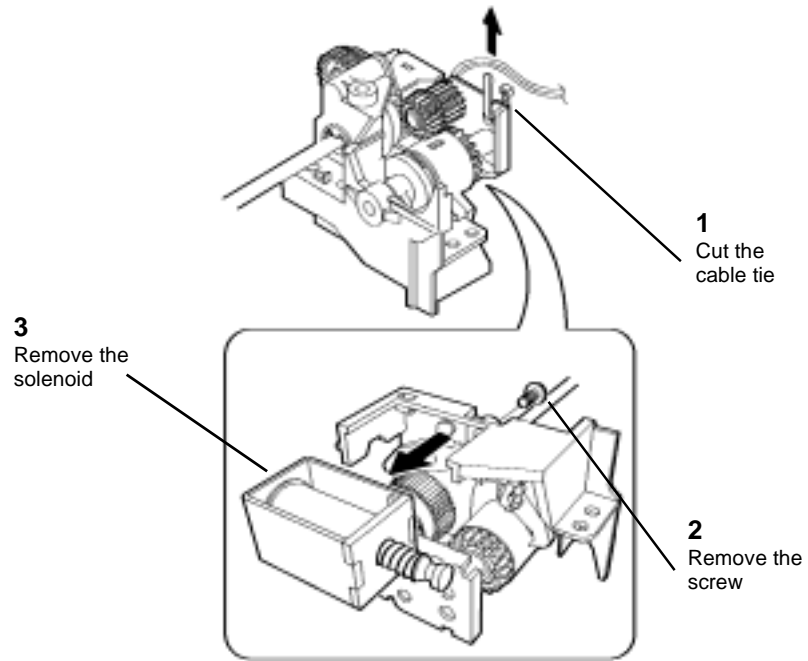

Figure 4 Removing the Feed Solenoid
5. (Figure 4): Remove the Feed Solenoid.